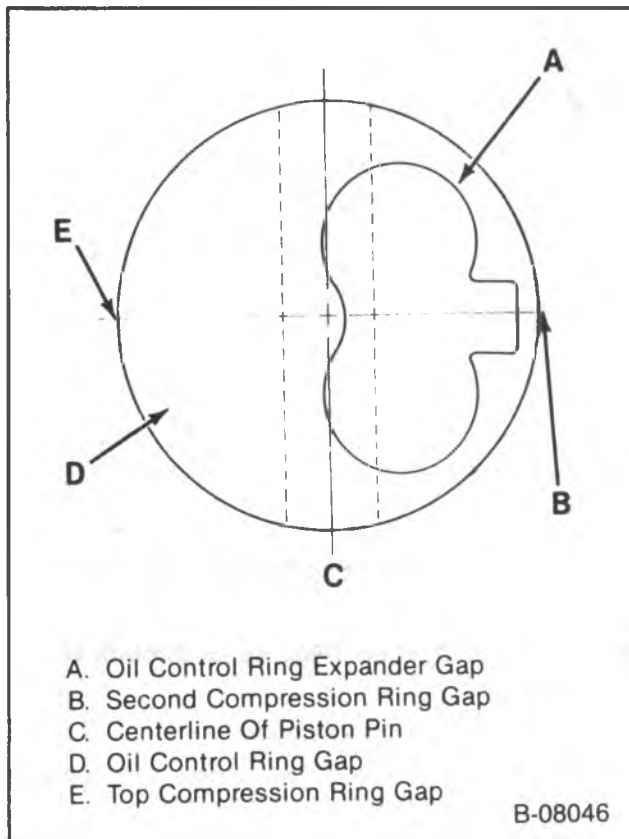

Figure 26 — Ring Gap Location
- Locate the piston ring end gaps as shown in figure 26. Lubricate the piston and rings with engine oil.